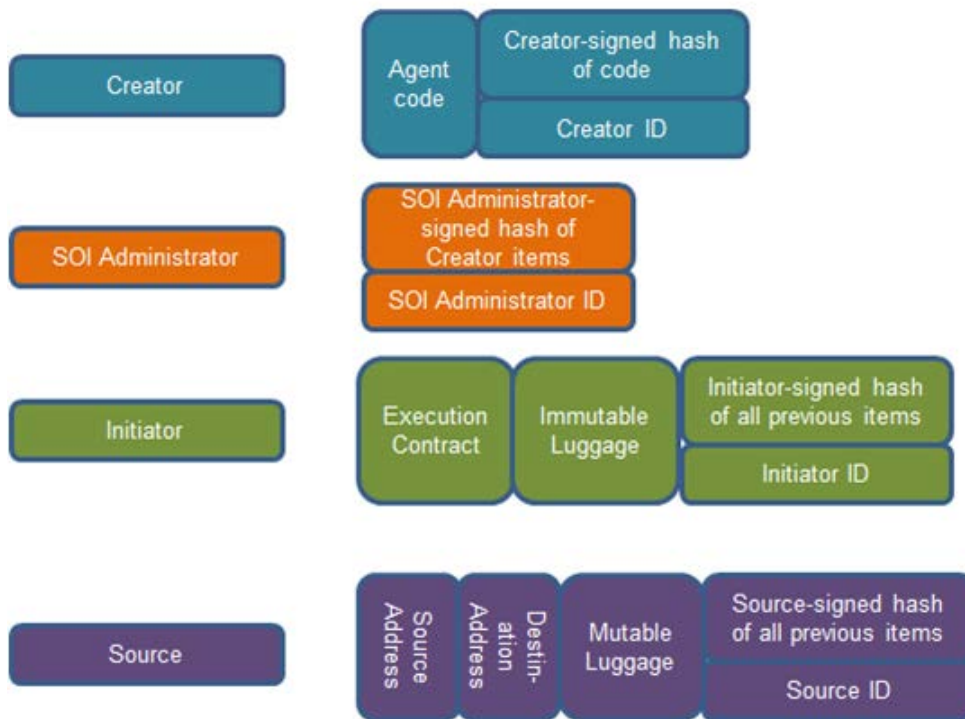

Figure 82: Structure for the Agent Signing Security Feature in VOLTTRON Restricted
The creation of a signed agent package requires four certificates. The developer (creator) certificate is used to sign the agent code and allows the platform to verify that the agent code has not been modified since being distributed. The admin (soi) certificate is used for allowing the agent into a scope of influence. The initiator certificate is used when the agent is ready to be deployed into a specific platform. The platform certificate is used to sign the possibly modified data that an agent would like to carry with it during moving from platform to platform. All of these certificates must be signed by a "known" Certificate Authority (CA). Figure 82 shows the structure of the agent signing feature: